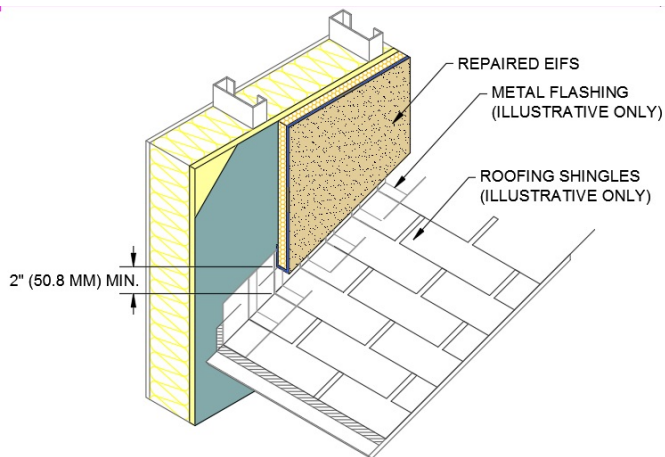

Figure 3
4. Install a piece of Detail Mesh® parallel to the roof first and install insulation board on top. Install new insulation board tight against the existing with the appropriate adhesive or fasteners. Sliver all gaps to ensure overall tightness. A minimum 2 in (51 mm) space should be maintained between roof and the new insulation. All insulation board must be properly back wrapped. You can either install a piece of Detail Mesh parallel to the roof first and install insulation board on top, or install pre-wrapped pieces of insulation board and add pieces of Detail Mesh where the individual pieces butt. (See Figure 3).